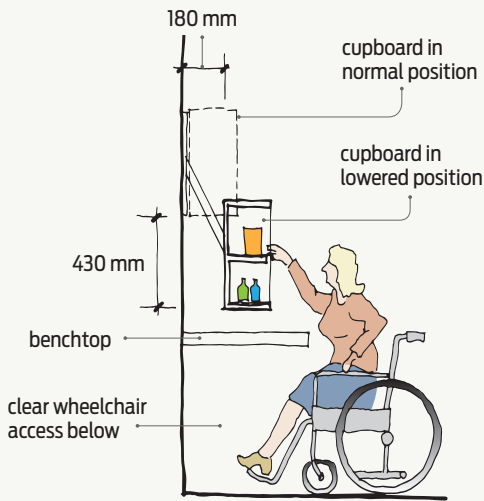

Figure 8 Adjustable-height wall cupboards.
- Electric lifts for wall-mounted cupboards that lower cupboards to a height where they can be accessed by a person in a wheelchair. These can be fitted to cupboards between 500–700 mm high. One motor lift will raise and lower a cupboard unit up to 1200 mm wide and weighing approximately 100 kg. A typical range of movement is 430 mm lowering extension and 180 mm outwards extension (see Figure 8).